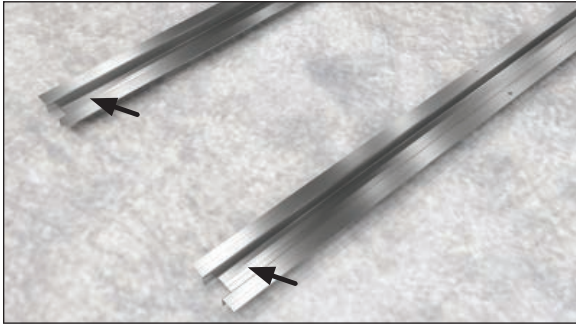

Fig. 3 Seismic anchoring locations (sled runners)
8. (SLED RUNNERS) If necessary, drill a hole in each end of every horizontal support (Fig. 3) and fasten to the floor with concrete anchors. **Note: The holes do not need to be in the exact locations specified here. Be sure that the anchors are close to the end of the horizontal supports and at each corner of the case.**